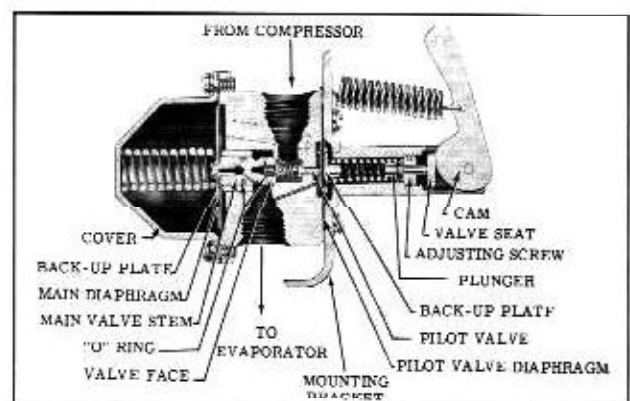

Fig. 14-32 "Hot Gas" By-Pass Valve
2. With unit on bench, remove counter balance springs, retainer, pin, lever, and molded spacer from mounting bracket. (Fig. 14-32)
- NOTE: If necessary to adjust the valve pressure setting, the control cable and the lever and cam will have to be disconnected from the by-pass valve in order to insert Tool J-6389 (revised) or Tool J-7727 into the valve. (Fig. 14-32) After the valve pressure has been adjusted to 24 p.s.i., the control cable adjustment will have to be made. (Refer to "BY-PASS CONTROL CABLE ADJUSTMENT".)